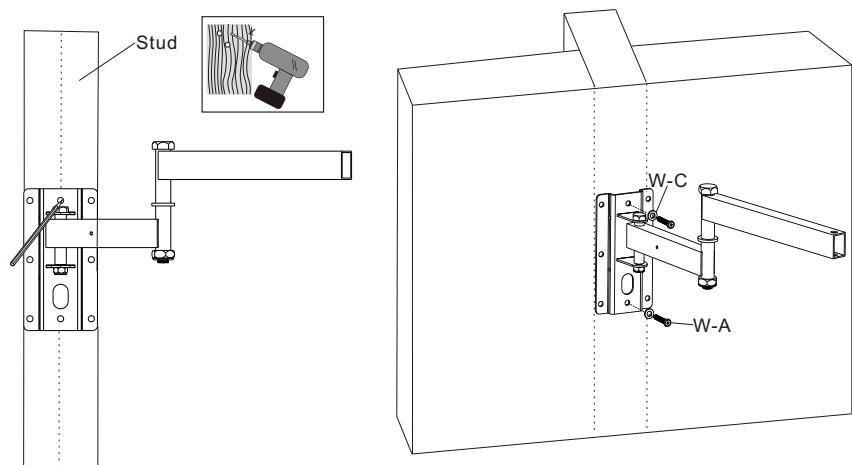

fig. 1.1
- Drill two 1/8" (3mm) dia. Holes 1.2" (30mm) deep. Make sure that the wall plate is level, secure it using two screws (W-A) and two washers (W-C) as shown in fig. 1.1.